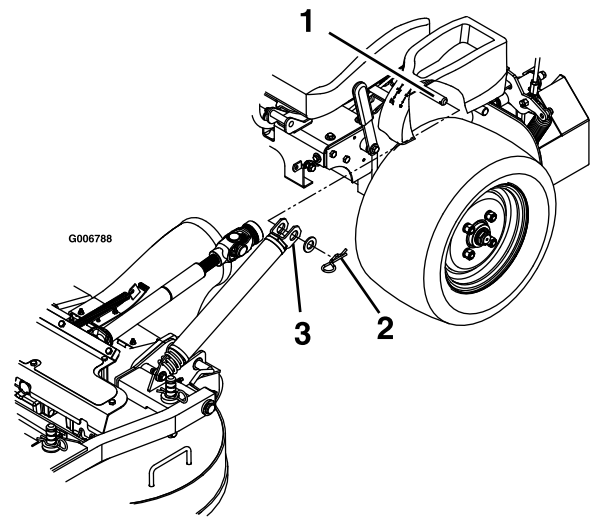

Figure 69
4. Remove the hairpin cotters and washers at the top of the deck-lift-assist spring on each side of the machine (Figure 69).
9. Install the springs onto the spring anchor pins under the left and right consoles and secure with a washer and hairpin cotter (Figure 69).